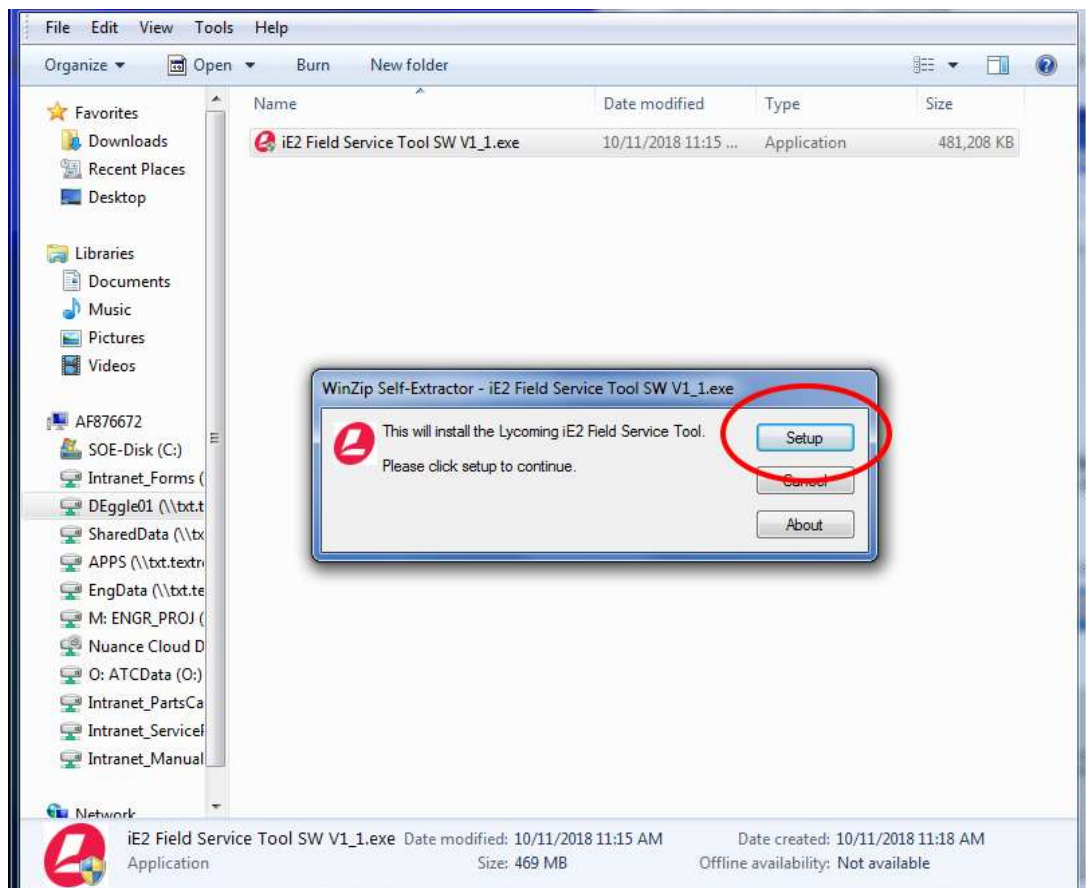

Figure C-14
12. Click the **Setup** button on the WinZip Self Extractor dialog box (Figure C-14).